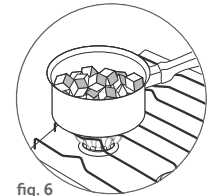

fig. 6
- If you use solid vegetable oil, cut it into small pieces and melt it in a separate pan – fig. 6.** Pour the melted oil into the fryer bowl. Never melt solid fat on the heating element or in the frying basket. Never put solid fat directly into the bowl or basket to avoid any risk of fire or damage the appliance.